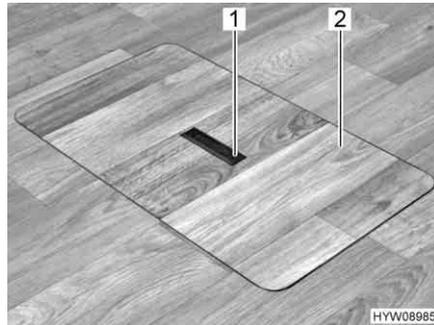
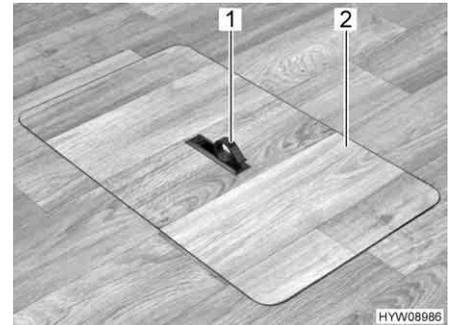

Fig. 21 Floor storage compartment cover (handle recessed)
Fig. 22 Floor storage compartment cover (handle swung out)
- Push one side of the grip plate (Fig. 21,1) downwards. The handle (Fig. 22,1) swivels upwards.
- Remove the cover (Fig. 22,2) upwards.
- Insert the cover (Fig. 22,2) in the frame on the floor.